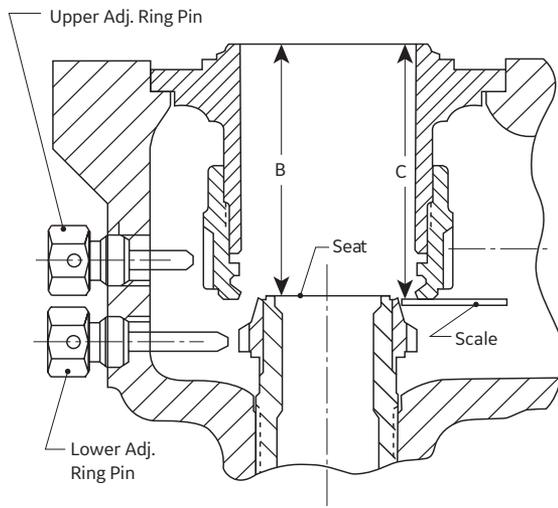
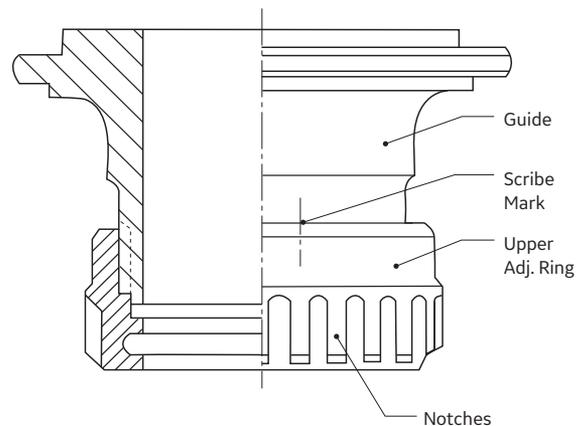

Figure 29: Guide - Bushing Seat Assembly
Figure 30: Upper Adj. Ring - Guide Assembly
- Install the adjusting ring and guide assembly into the valve base such that the scribe marks will be visible from the valve outlet or an inspection port. Place a scale or other suitable thin flat metal object on the lower face of the upper adjusting ring and measure the overall length of the upper ring and guide assembly. Adjust the upper ring to the Dimension C (See Figure 29) recorded in Step 12 of Section XII.B., "Disassembly". Observe the marks made on the ring and guide and adjust the ring to align the marks (see Figure 30.) Recheck the overall length of the